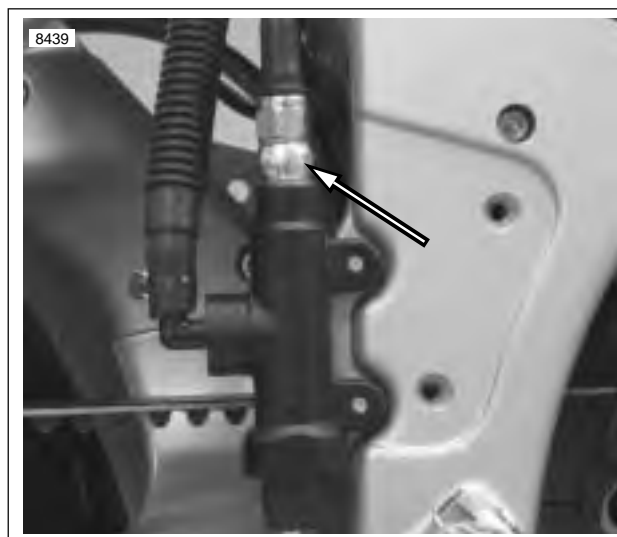

Figure 2-53. Rear Brake Line Switch/Banjo Bolt
8. See Figure 2-53. Remove brake line switch/banjo bolt from rear master cylinder. Discard copper washer.
1. See Figure 2-53. Install brake line switch/banjo bolt with **new** copper washers to the master cylinder. Tighten to 16-20 ft-lbs (22-27 Nm).